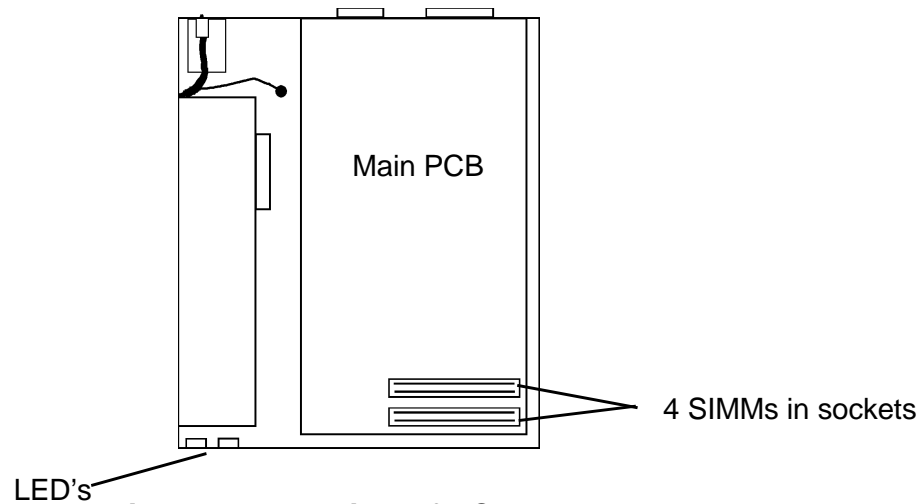

Figure 2 - Top View of PCRIP-10
5. With the chassis oriented with the 2 LED's facing you, the 4 SIMMs to be replaced are located directly to your right. (See Figure 2.) Main PCB